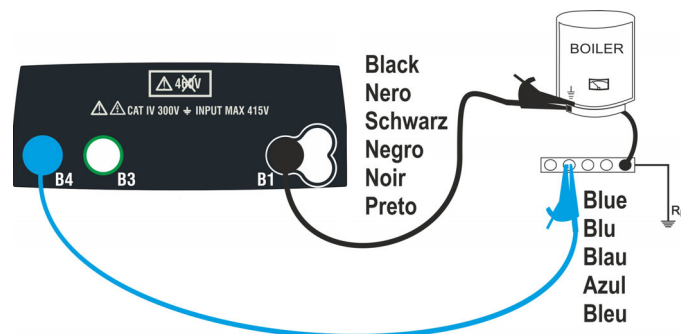
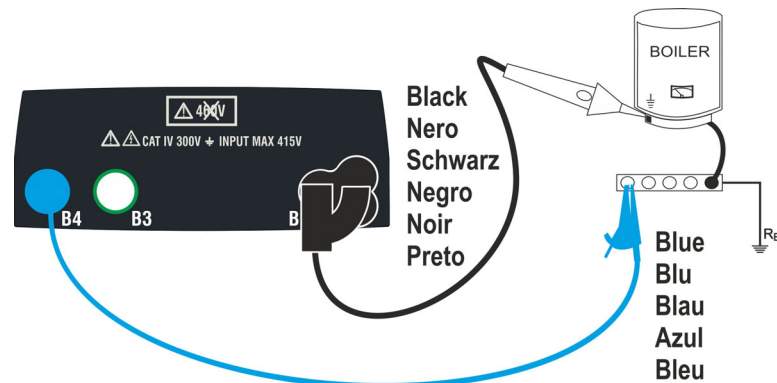

Fig. 8: Continuity test by means of single cables
Fig. 9: Continuity test by means of remote switch probe
6. Connect the test leads to the ends of the conductor to be tested as shown in Fig. 8 or Fig. 9.